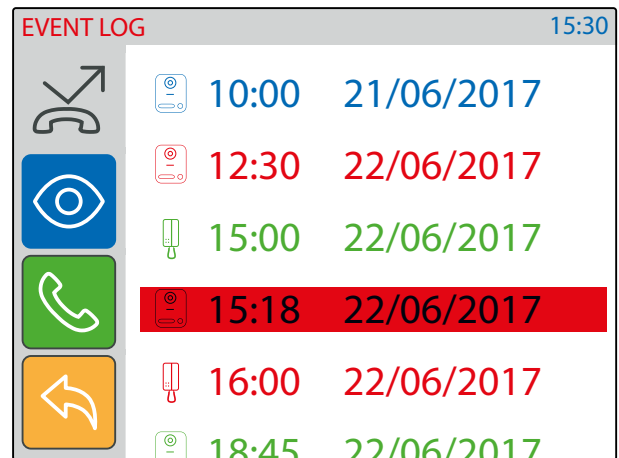

Fig. 62 External missed call
- Tap on the event that you want to inspect (Fig. 62)